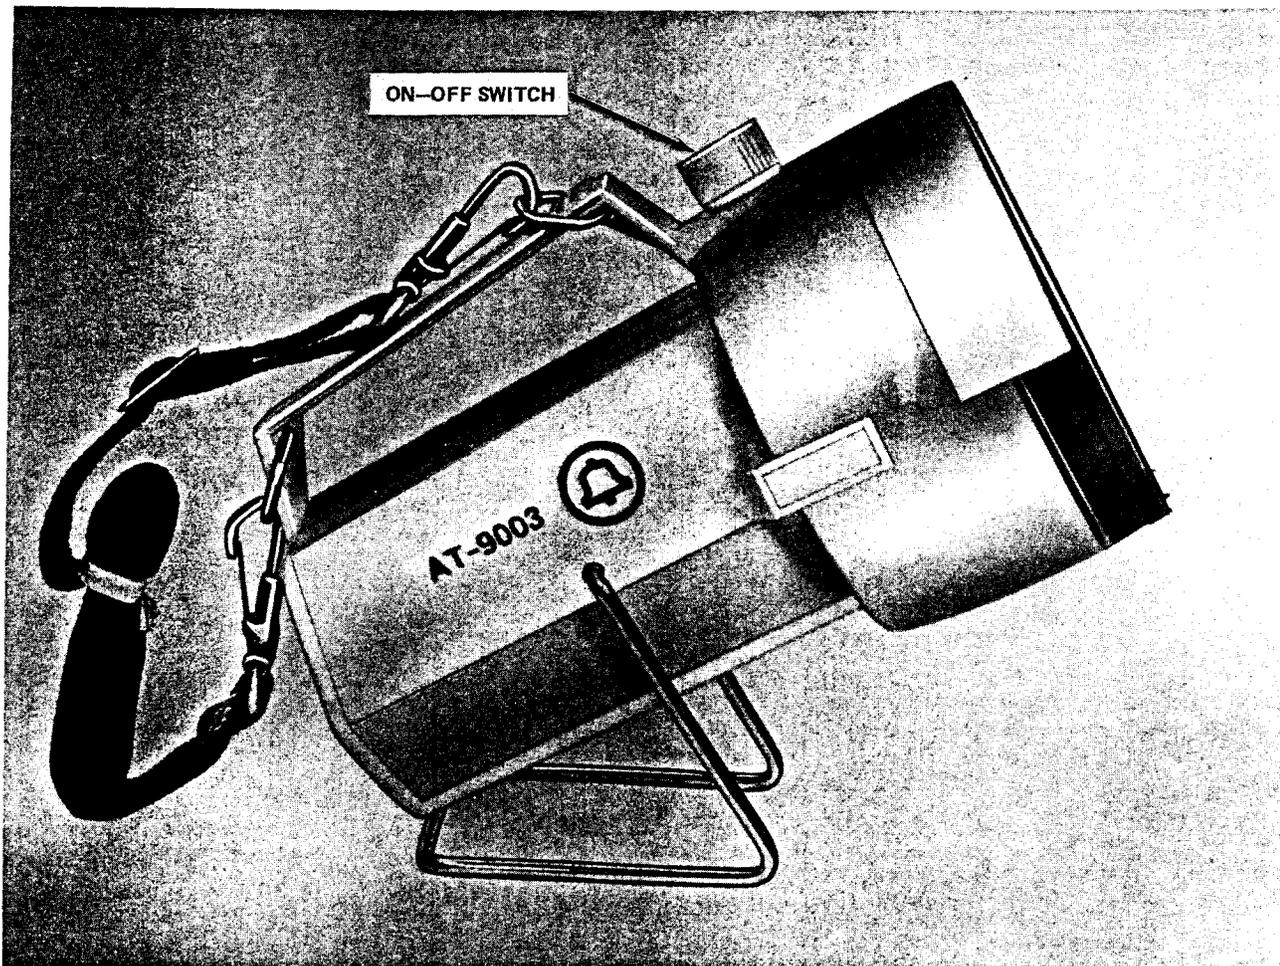

Fig. 1—B Electric Lantern
2.01 The B electric lantern (Fig. 1) is a safety yellow-colored battery-powered hand lantern. Physical dimensions of the lantern are approximately 8-1/2 inches front to back with a 5-inch lens diameter. The lantern weighs approximately 1 pound, less battery. The lantern is equipped with a swivel stand which allows the lantern to be pointed straight up or at any angle down to 20° below the horizontal. It is equipped with a positive on-off switch. The number AT-9003 and the Bell System symbol are molded into the right rear side of the lantern (Fig. 1).